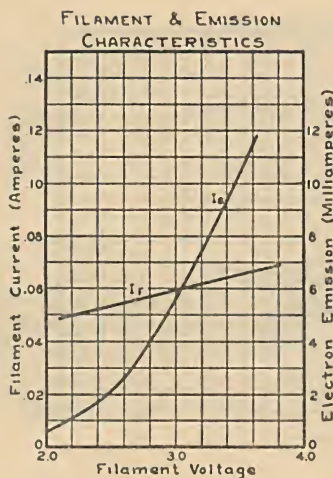

Fig. 1
**Filament and Emission Characteristics**—Fig. 1 shows the change of filament current with various filament voltages.